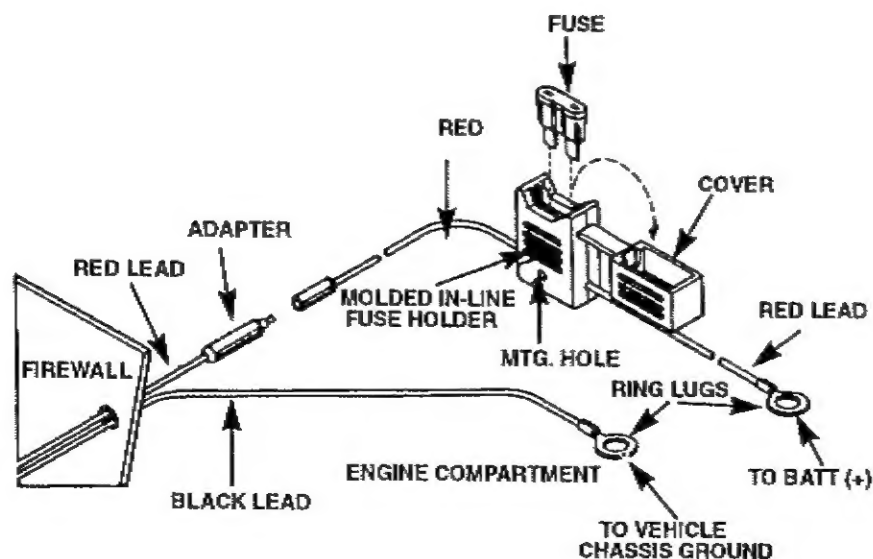

Figure 2. Power Cable Assembly
5. Install ring lugs (supplied) onto stripped end of power cable black lead, and onto stripped end of red lead on fuse holder as shown in Figure 2.
6. Locate the fuse holder as close to the battery as possible and away from any hot engine component. Mount the fuse holder using the provided mounting hole and dress wires as necessary. Connect the fuse holder red adapter lead plug to the mating receptacle on the red lead of the power cable as shown in Figure 2.
9. Plug fuse into in-line fuse holder as shown in Figure 2.